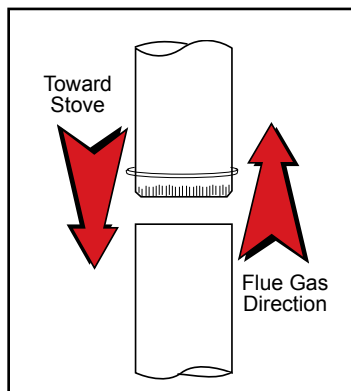

Fig. 5 - Chimney connector.
- Begin assembly at the flue collar of the stove. Insert the first crimped end into the stove's flue collar, and keep each crimped end pointing toward the stove. (Fig. 5) Using the holes in the flue collar as guides, drill 1/8" (3 mm) holes in the bottom of the first section of chimney connector and secure it to the flue collar with three #10 x 1/2" sheet metal screws. Lift off the griddle, and shield the stove's surface between the griddle opening and the front of the flue collar to protect the finish when you drill the front hole.
- Fasten each joint between sections of chimney connector, including telescoping joints, with at least three (3) sheet metal screws. The pre-drilled holes in the top of each section of chimney connector serve as guides when you drill 1/8" (3 mm) holes in the bottom of the next section.